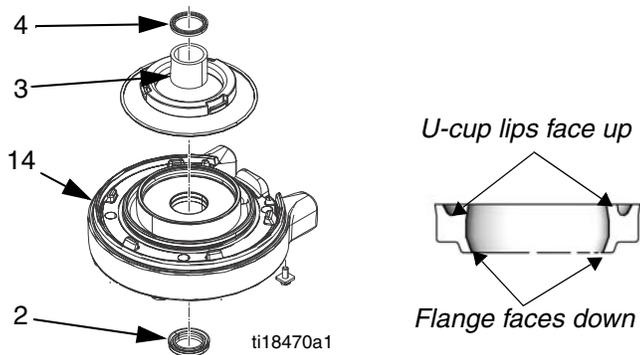

FIG. 10: Air motor u-cup installation
9. Install the shield (13) around the cylinder (12) and in the groove on the top cover (1).
10. See FIG. 10. Lubricate and install new flanged u-cup seal (2) in the bottom of the bearing in the bottom cover (14). The u-cup must face up and the flange must face down. Install bearing (3) into bottom cover. Lubricate and install new u-cup seal (4) into the top of the bearing (3). Lips must face up.